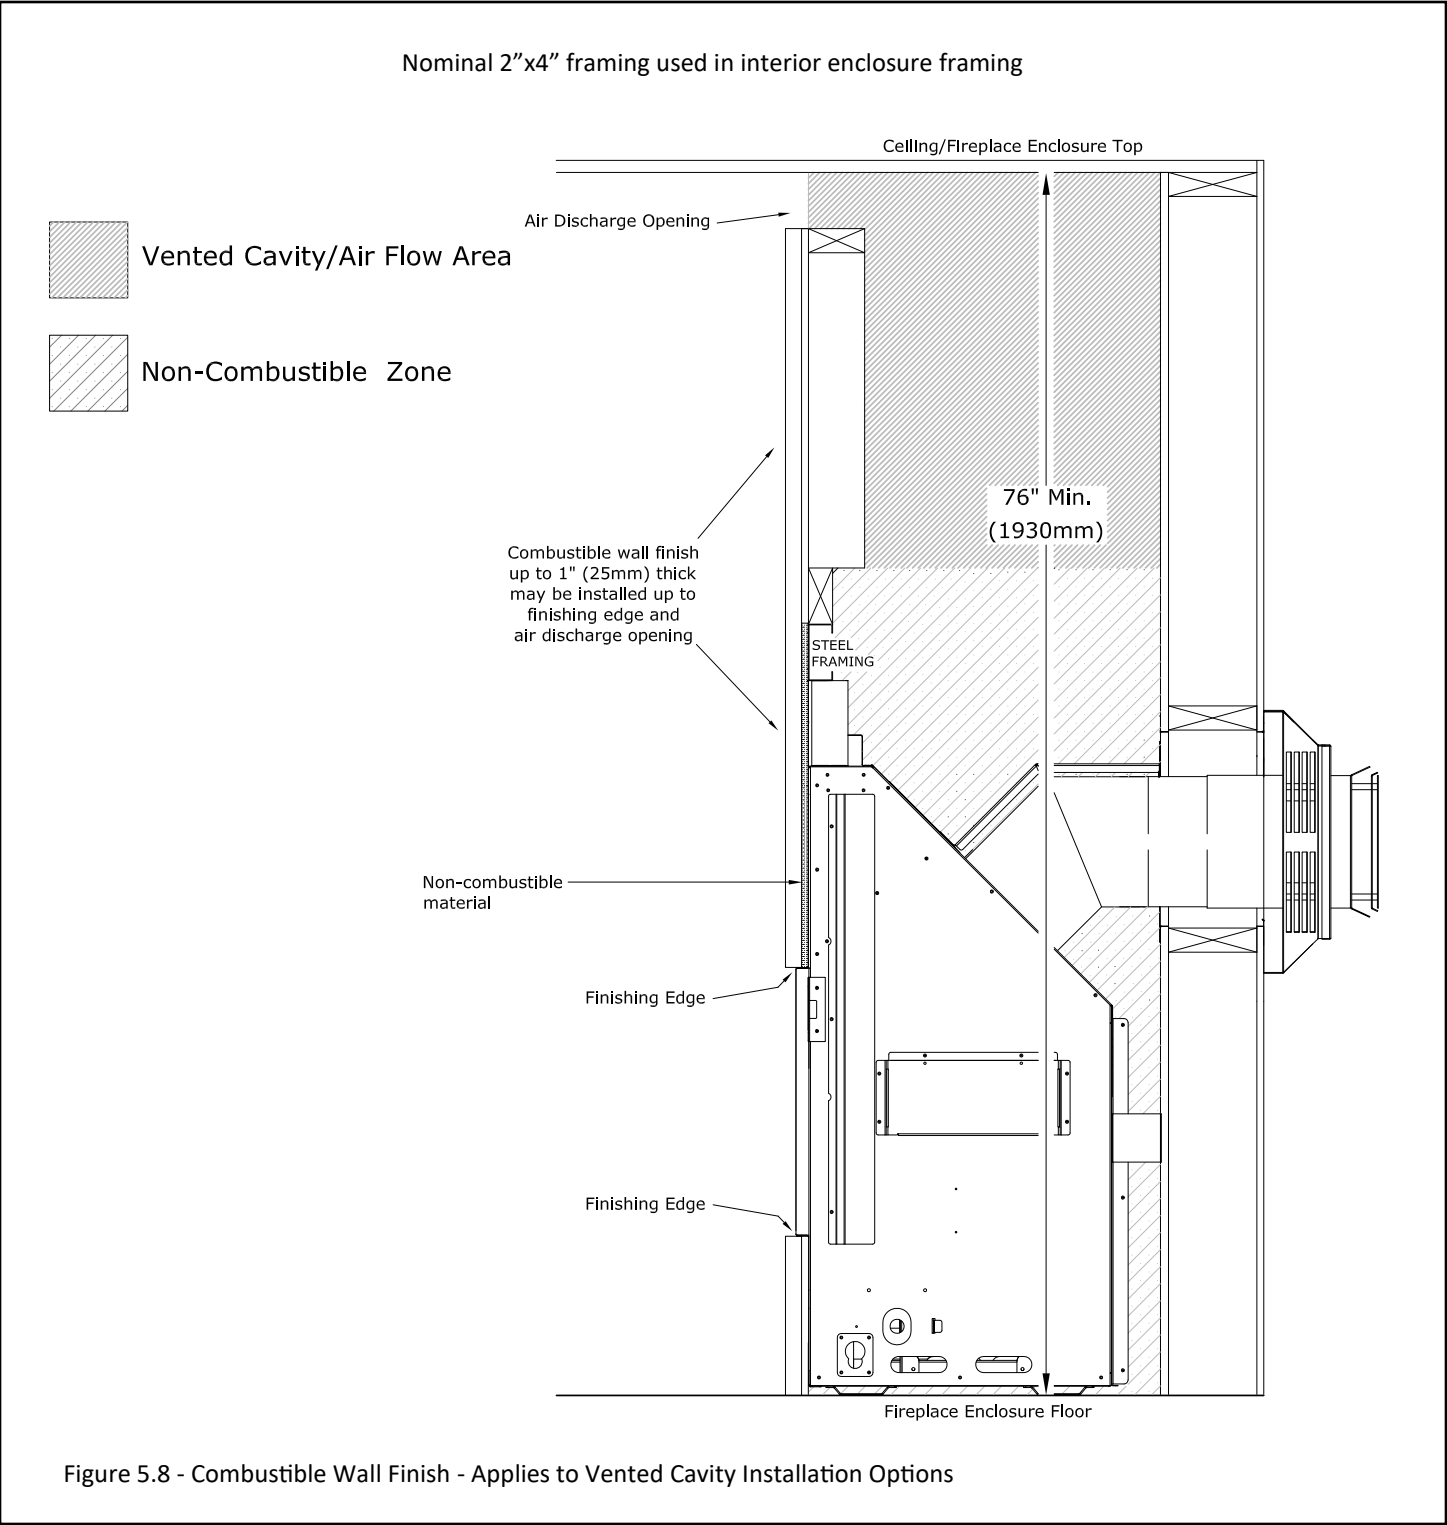

Figure 5.8 - Combustible Wall Finish - Applies to Vented Cavity Installation Options
- Figure 5.8 shows installation of combustible wall finish up to 1" (25mm) thick for Vented Cavity installations.
- This 1" (25mm) combustible material is able to go down to the fireplace finishing edge and up to the air discharge opening, as shown in Figure 5.8.
Figure 5.8 shows combustible wall finish installation. You can install up to 1" (25mm) thick combustible material on top of any required noncombustible material. Combustible finishing material can go down to the finishing edge of the fireplace. This is for Vented Cavity Installation Options only.